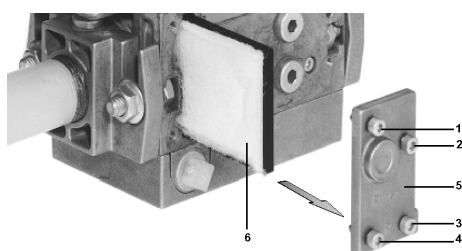

Fig. 57
- 2 Remove screws 1 ÷ 4 using the Allen key n. 3 and remove filter cover 5 in Fig. 57.